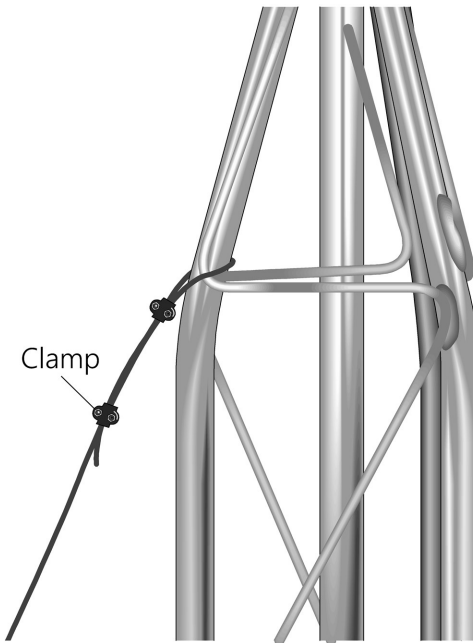

FIGURE 7-32. Guy wire attached to tower
2. Install the guy wires to the top of the tower (FIGURE 7-32 (p. 38)). Cut the 36.5 m (120 ft) piece of guy wire into three pieces; lengths will vary with slope. Attach the guy wires to the tower by using two clamps for each guy wire.